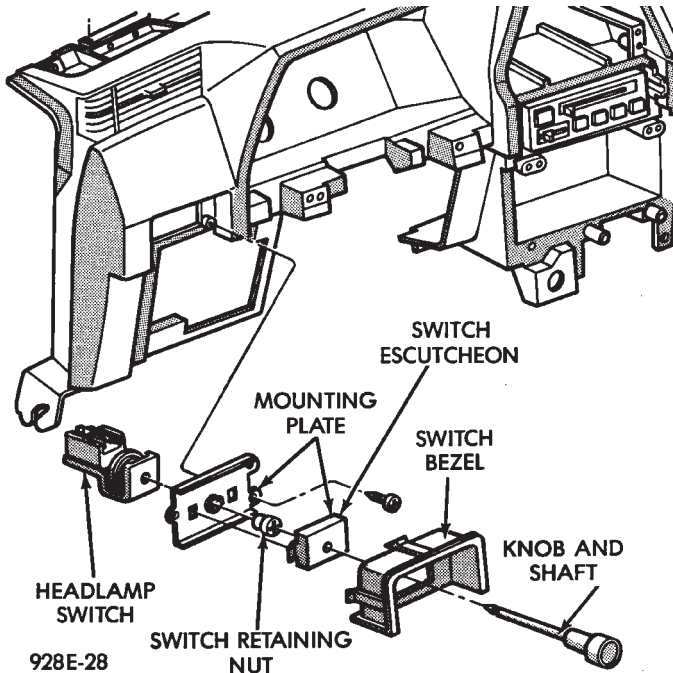

Fig. 22 Headlamp Switch Assembly
(1) Snap headlamp switch bezel out of instrument panel pad (Fig. 22).